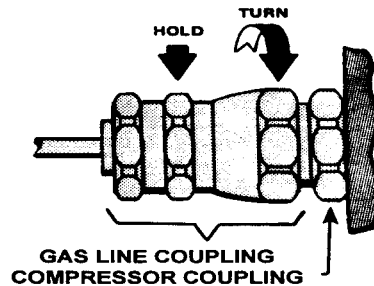

Figure 4 Connect Gas Line to Compressor or Cold head
- 4.. Remove the dust plugs from the Aeroquip couplings on one end of each of the gas lines. Connect the gas lines to the compressor's high-pressure (supply) and low-pressure (return) couplings. Use two wrenches to tighten the coupling. Torque all couplings to 47 ± 7 Nm (35 ± 5 ft. lbs.) See Figure 4. Tighten each coupling before proceeding to the next one.